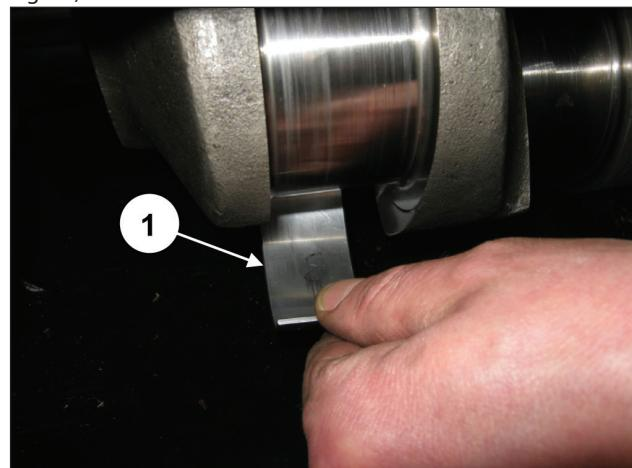

Fig. 20
Remove the three upper half-bearings of the conrods (pos. ①, Fig. 20).